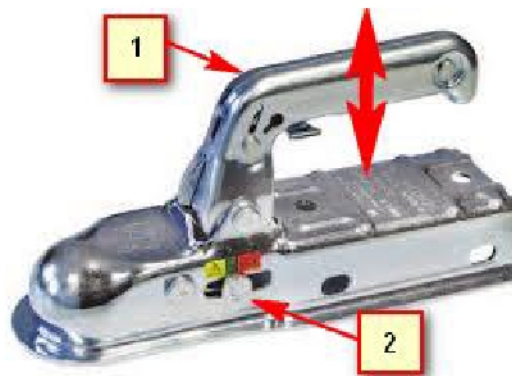

Fig. 3. Coupling head
2. Open the coupling head – (pull up the handle 1 of the coupling head) (Fig. 3).
4. Due to safety reasons, press the handle 1 downwards (Fig. 3).
6. The coupling head is mounted correctly on the ball when the safety indicator 2 is on the green area of the coupling head wear indicator (Fig. 3). The red area of the indicator informs about the wear of the hitch ball or/and the coupling head.
- 2) Pull up the coupling head handle 1 (Fig. 3).